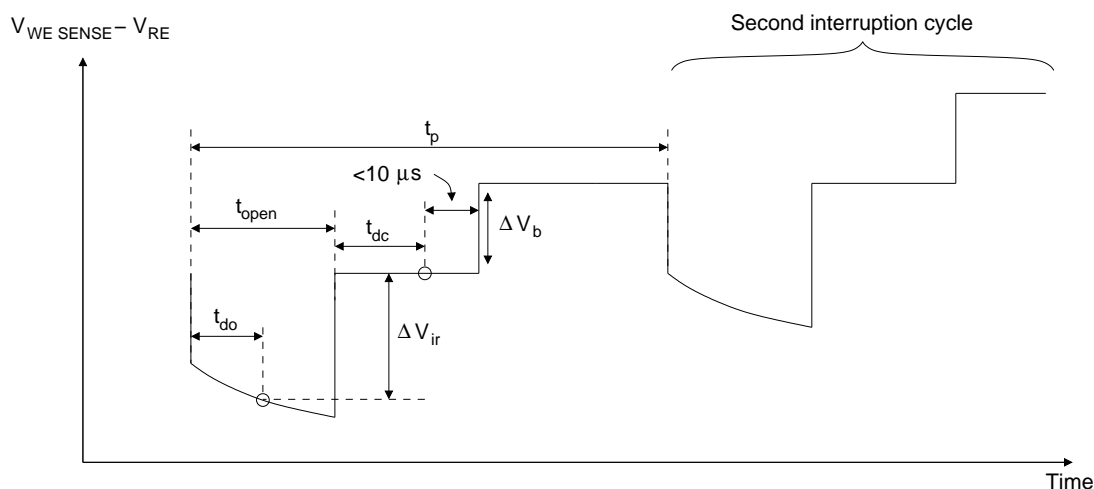

Figure 3: Cell potentials during current interrupt IR compensation. Default values for the various parameters are shown in table 1.
**INTERRUPT mode:** Figure 3 illustrates the parameters used for current interrupt when engaged from the front panel. In this mode, the CE is periodically disconnected from the control electronics to interrupt the cell current. This removes any IR drop between the reference and working electrodes, causing  $|V_{WE\ SENSE} - V_{RE}|$  to
Use the [SET] key in INTERRUPT mode to adjust the percent correction factor – the only parameter than can be set from the front panel. The other parameters shown in figure 3 are set to the default values shown in table 1.